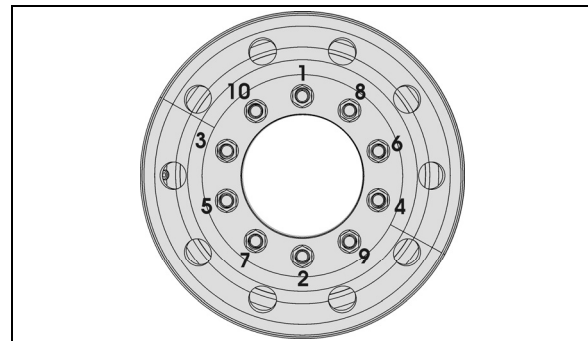

FIGURE 2: TIGHTENING SEQUENCE
It is also important that wheel stud nuts be tightened alternately on opposite sides of the wheel. Refer to Figure 2 for the suggested tightening sequence.
Tighten stud nuts progressively as shown in Figure 2. The final tightening should be done with a torque wrench. Tighten stud nuts to 450-500 lbf-ft (610 - 680 Nm) for aluminum as well as steel wheels.
2. Screw in the hex stud nuts (refer to Figure 2 for sequence) so that wheel will position itself concentrically with hub. This is important, otherwise wheel may be eccentric with hub and will not run straight. In this initial step, slightly tighten the nuts to correctly position the wheel;
3. Tighten stud nuts progressively as shown in Figure 2. The final tightening should be done with a torque wrench. Tighten stud nuts to 450 - 500 lbf-ft (610 - 680 Nm) for aluminum as well as steel wheel.